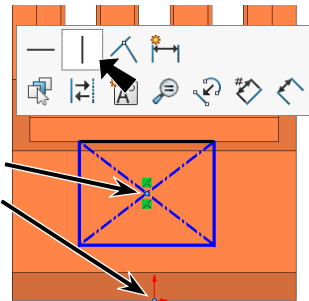

Fig. 67
Step 6. **Ctrl click centerpoint of rectangle and Origin**  to select both. Release Ctrl key and click **Make Vertical**  on the context toolbar, **Fig. 67**.